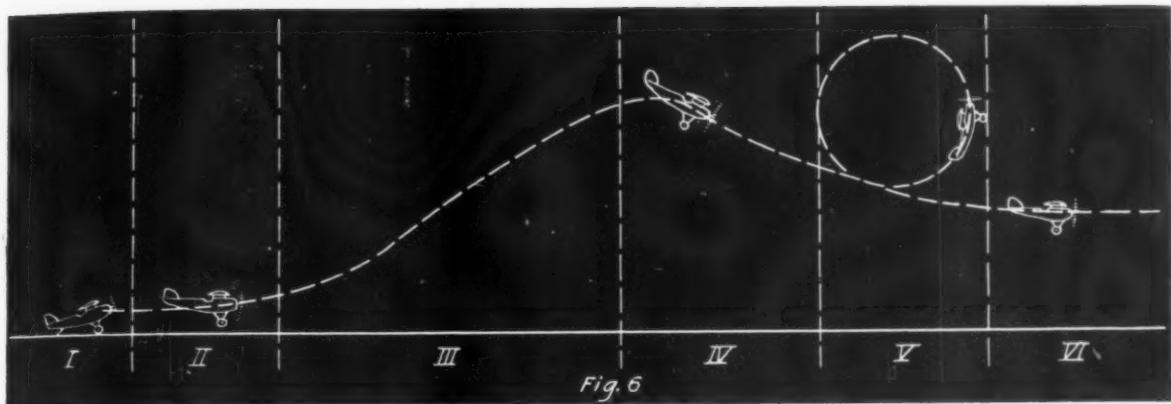

Fig. 6
**Steps in Making a Turn.** In order to render the process of making a turn easier to comprehend and to remember, it is divided here into five distinct sets of control movements. In actual flight, these movements are so closely connected that no separate steps are discernible; the controls are in gradual, continuous movement. These five steps are shown in Figure 6.